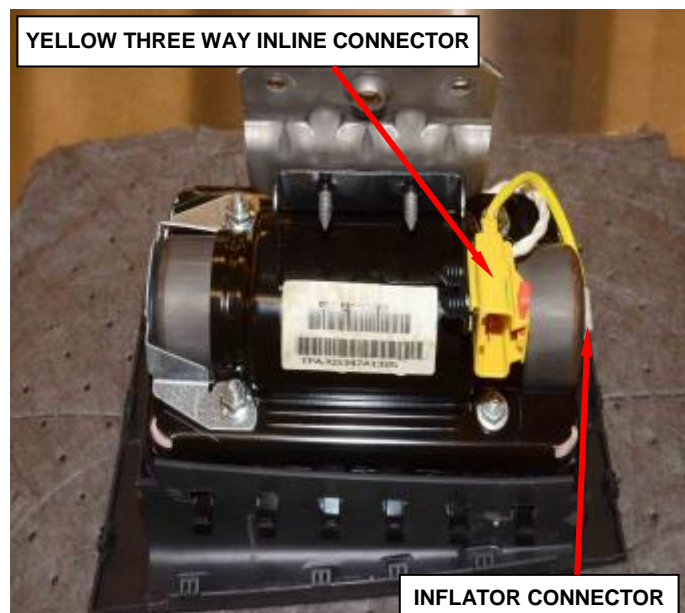

Figure 90 – Inflator Connectors
- c. Disconnect the single yellow wire inflator connector from the end of the inflator using pliers (Figure 90).
- d. Remove the yellow three way inline connector from the housing bracket (Figure 90).